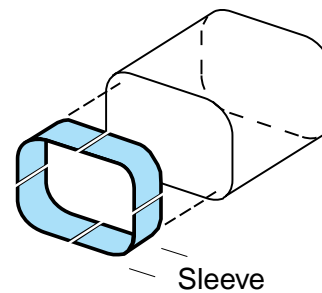

Fig. 4.21 — Sleeve Created to Control Weld
- 3 Cut through each side of the sleeve to create four individual 'L' shaped pieces that can be installed in the undamaged portion of the frame rail (Fig. 4.21).